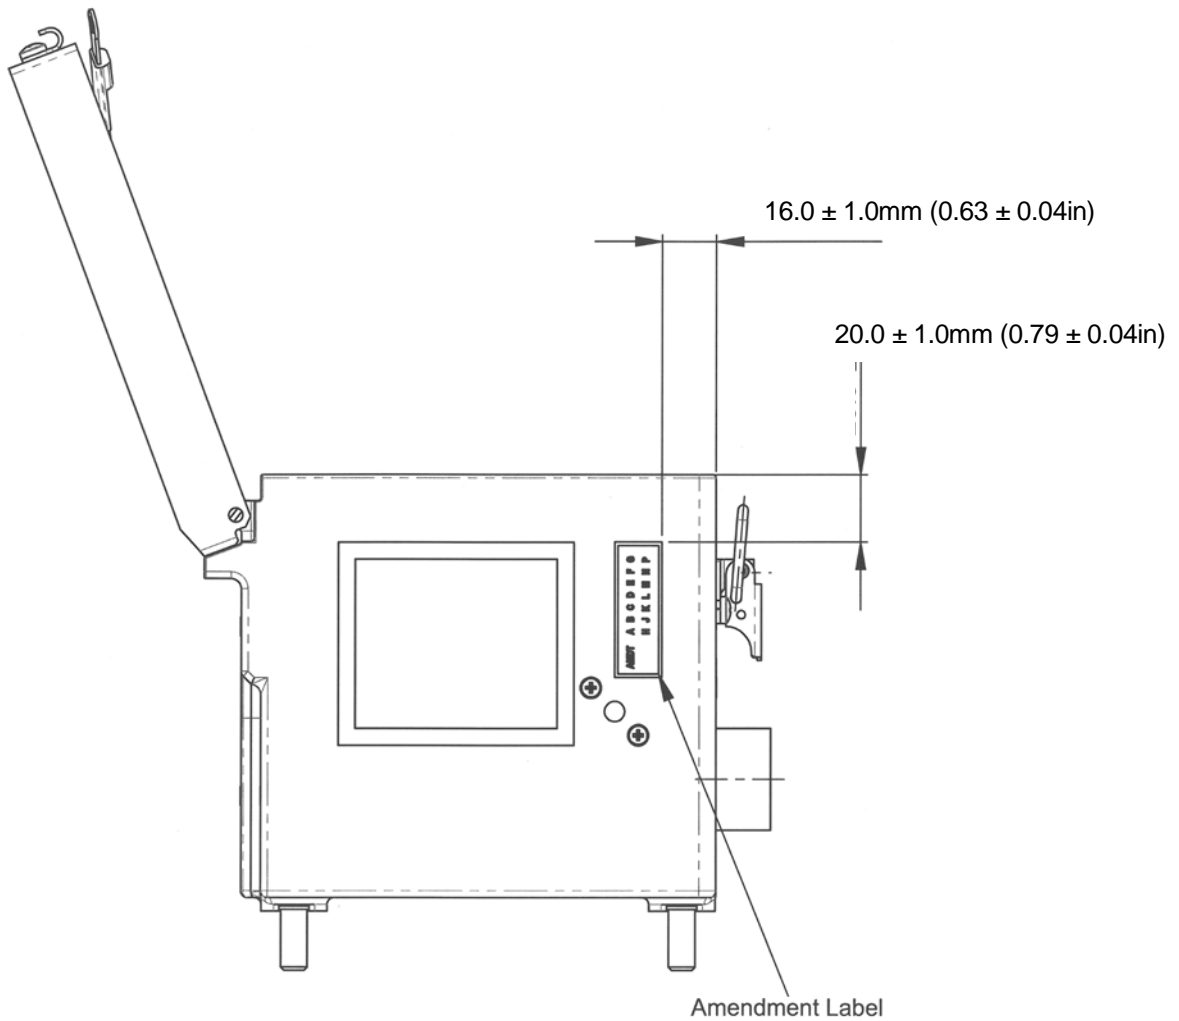

FIGURE 1 - Amendment Label – Location
(1) Maintainability Panel - Disassembly (IPL Figure 1)
(2) Toggle Latch Strike – Embodiment (IPL Figure 1)
- (1) Maintainability Panel – Assembly (IPL Figure 1).
- (1) If the Maintainability Panel is fitted with an Amendment Label go to Para. 3.D.6.
- (2) If the fitment of an Amendment Label is required, carry out the following instructions.
- (3) Refer to Figure 1 and locally clean the area with IPA and allow to dry. Make sure the area is clean and free of grease.
- (4) Remove protective backing from the new Amendment Label and place in position as shown in Figure 1.
- (5) Apply even pressure across the Amendment Label to make sure the Label is secure.